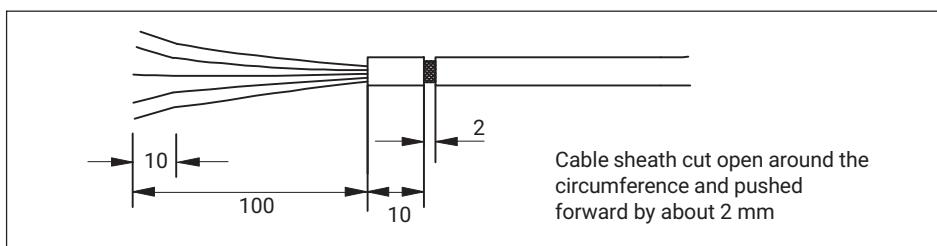

Fig. 7.2 Cable sheath with incision
1. Cut the cable sheath as shown in *Fig. 7.2*, to gain access to the shield.